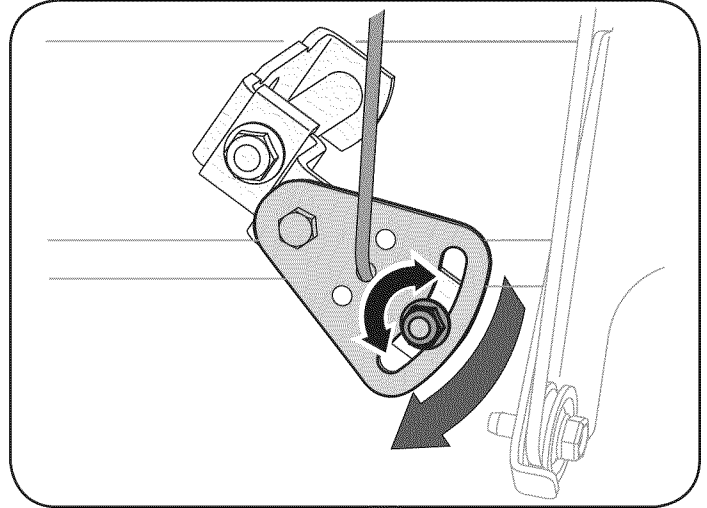

Figure 21
2. Loosen the hex nut on the shift cable index bracket. See Figure 21.